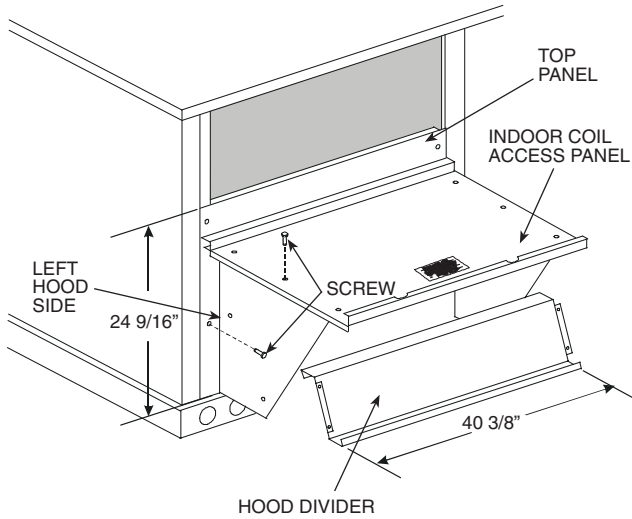

Fig. 24 — Outdoor-Air Hood Construction
4. Swing out indoor coil access panel and insert the hood sides under the panel (hood top). Use the screws provided to attach the hood sides to the hood top. Use screws provided to attach the hood sides to the unit. See Fig. 24.
- Insert the hood divider between the hood sides. See Fig. 24 and 25. Secure hood divider with 2 screws on each hood side. The hood divider is also used as the bottom filter rack for the aluminum filter.